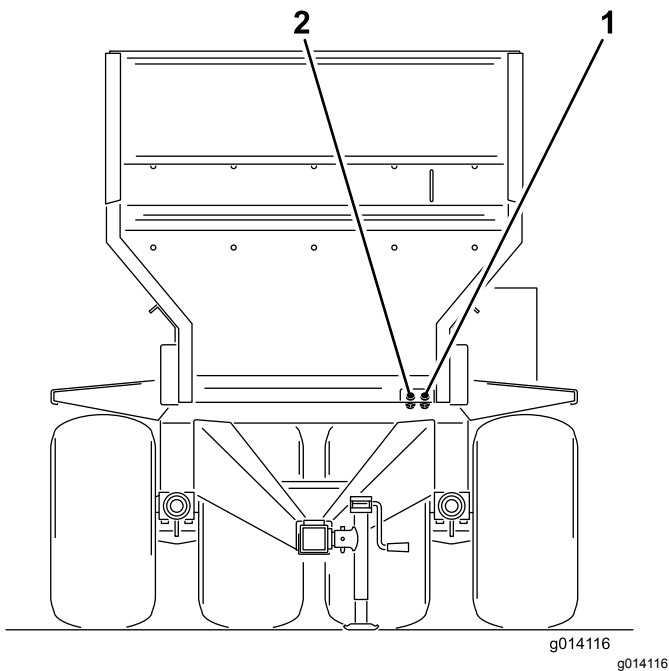

Figure 20
6. Connect the 2 hydraulic hoses from the machine to the tow vehicle. Facing the front of the machine, connect the right hose to the pressure side and the left hose to the return side (Figure 20). The return hose has an in-line one-way check valve. The arrow on the check valve should face the tow vehicle return connector.